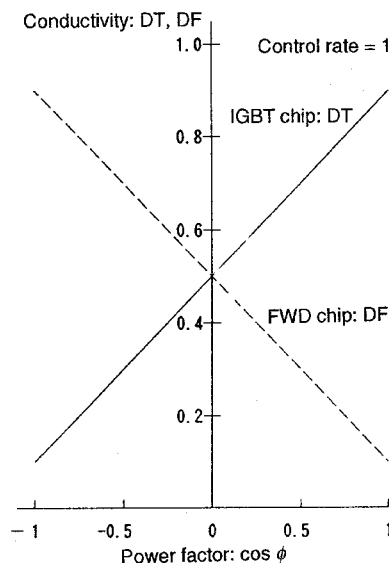

Fig. 4 Relationship between power factor of a sine-wave PWM inverter and conductivity
**DT, DF: Average conductivity of the IGBT and FWD at a half wave of the output current.** (Refer to Fig. 4)